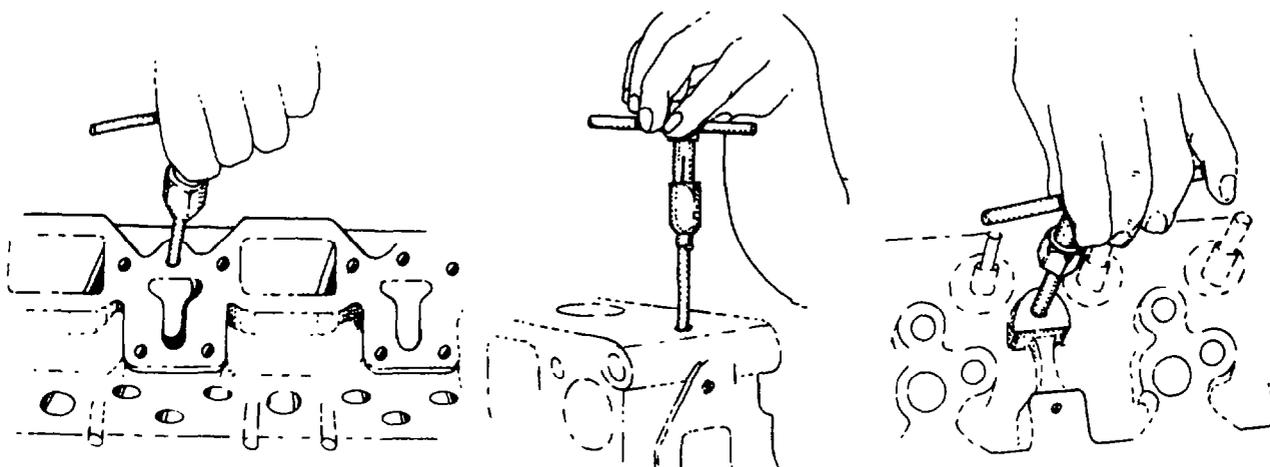

Fig. 46 — Dressing Threaded Holes
- c. Run the appropriate tap into all threaded holes, including the manifold bolt holes, rocker arm shaft mounting holes and fuel line clip hole which is located at the rear end of the front cylinder head to dress the threads (see fig. 46).